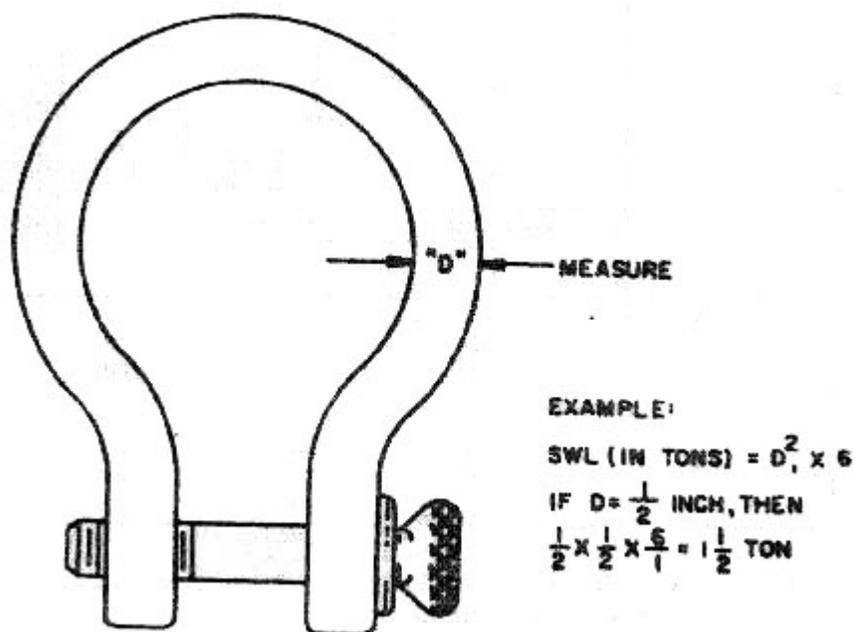

Figure 7-17. Shackle Safe Working Load
2. Shackles are not proof loaded (except as a sling assembly) by the Maintenance Department and one should calculate the approximate safe working load by using the formula ( $SWL = D^2 \times 6$ ) prior to selection and use of the shackle (see Figure 7-17).